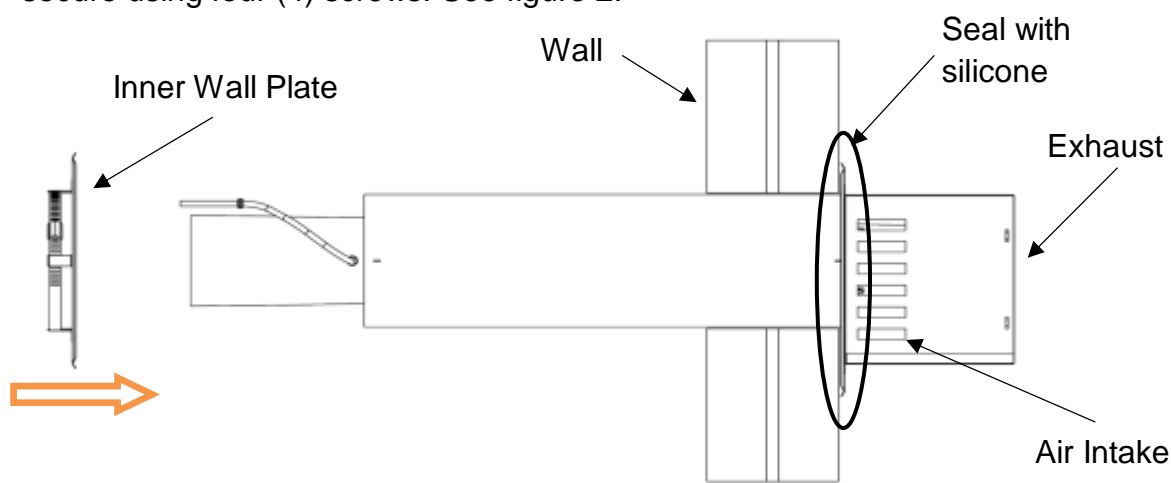

Figure 2 – Terminal installation (Step 5-6)
5. Seal with a weatherproof sealant around the edge of the **outer wall plate** to prevent water from getting inside (figure 2). It is recommended that a 24" x 24" patio block be placed under the vent terminal in areas where vegetation may grow up around the terminal.
6. From the inside of the building, slide the **inner wall plate** over the outer section and secure using four (4) screws. See figure 2.